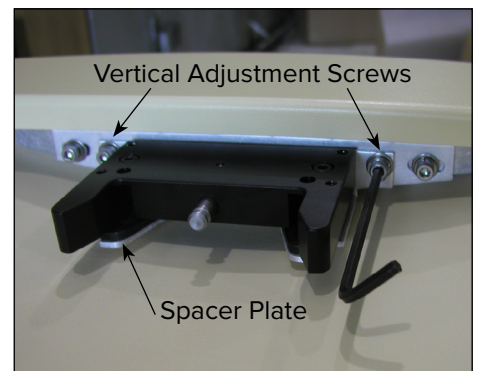

Fig. 12
4. Adjust the height of the Mounting Block Pin by loosening the two vertical adjustment screws with the $\frac{3}{16}$ in Allen wrench and engaging the Mounting Block Pin into the Alignment Pin (Fig. 12).